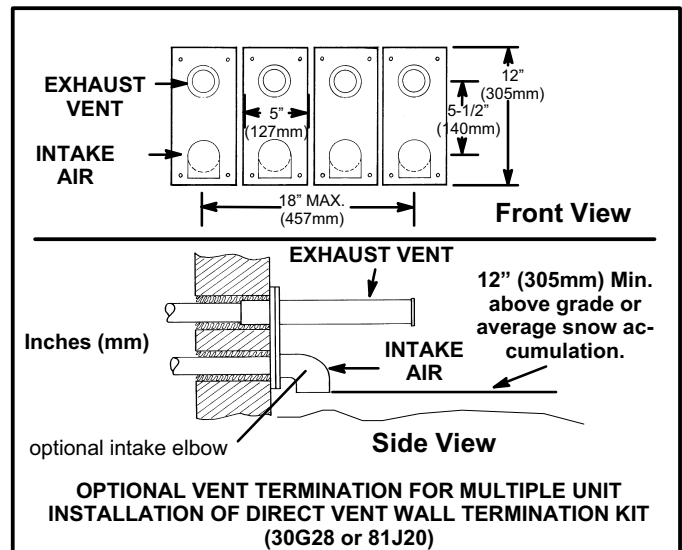

FIGURE 34
8. A multiple furnace installation may use a group of up to four terminations assembled together horizontally, as shown in figure 34.